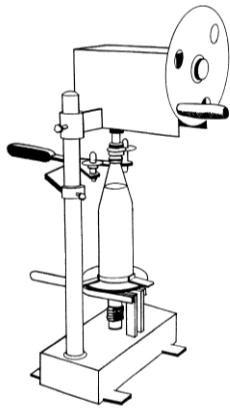
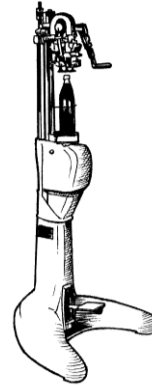

Figure 11: Hand operated ROPP machine
Figure 12: Motorised ROPP machine
Roll-on-pilfer-proof (ROPP) caps are fitted by placing a blank cap on the bottle and then pressing the metal into the screw thread of the glass. Finally, a ring of perforated metal is formed at the base of the cap that shows evidence of tampering or pilfering. Hand operated ROPP machines can be constructed locally (Figure 11) and small motorised version are available commercially (Figure 12). A simpler cap which does not incorporate the pilferproof feature is known as a 'Roll-on (RO) cap and this can be fitted by similar types of equipment.